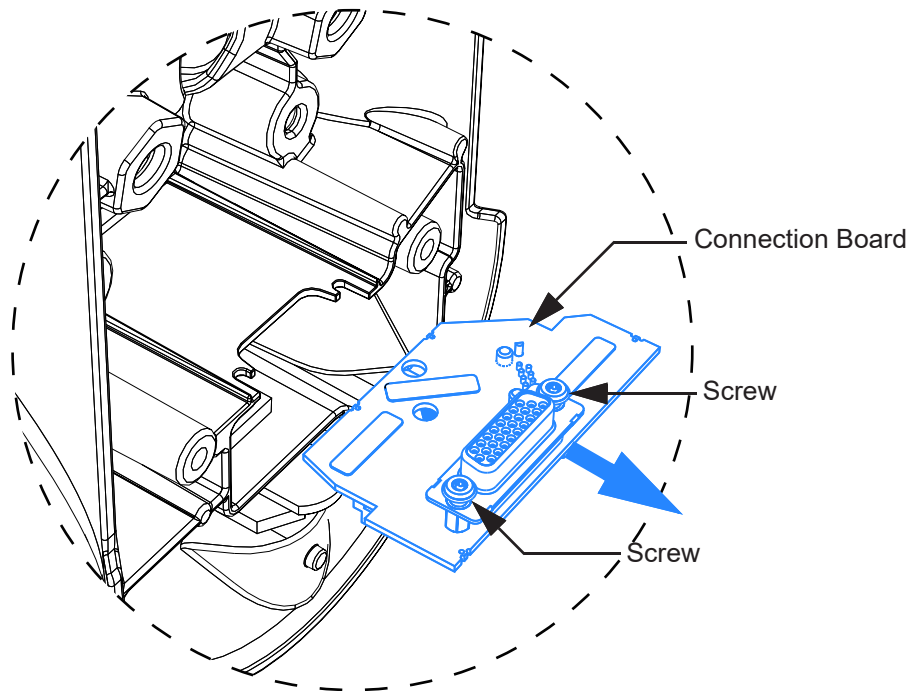

Figure 3-67 Slide out Connection Board
- Step 9** Loosen the two screws that fix the connection board (one turn is enough) and slide out the connection board, see **Figure 3-67**.